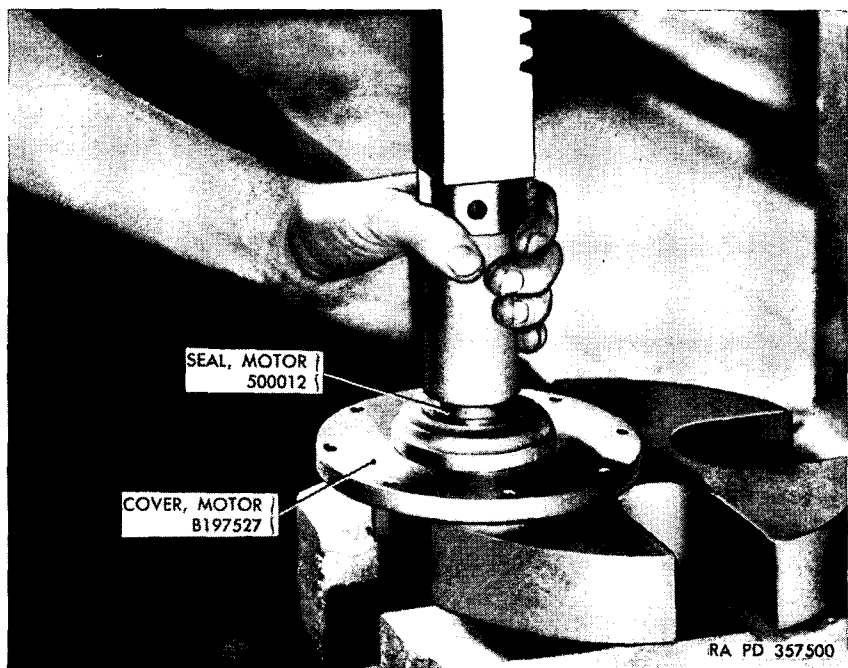

Figure 49. Pressing oil seal into oil seal retainer and cover.
g. ASSEMBLE GEAR PUMP HOUSING ASSEMBLY (figs. 2, 38, 49, and 124). Press gear pump shaft in housing the short way and flush with housing front face. Slip gear pump driven gear and bushing over shaft. Insert gear pump drive gear. Turn gears to see if they are free. Fasten gear pump cover to housing with six screws. Wire screws in place with lock wire. Insert front ball bearing into counter-bore of housing with bearing surface marked "THRUST HERE" facing oil seal retainer. Place gear pump housing assembly in an arbor press, front face down, with front ball bearing resting on a replacer, the two holes being concentric. Insert shaft into drive gear and ball bearing and be sure key fits in shaft and either drive gear keyway. Place a bar on ported end of drive shaft and force shaft assembly down until shoulder on shaft reaches front ball bearing. Place oil seal retainer on arbor press (fig. 49) with tongue downward. Set oil seal in place with closed end on top, and press oil seal flush with housing. Fasten gasket and oil seal retainer to gear pump housing with four screws. Wire screws in place with lock wire.
d. ASSEMBLE COVER ASSEMBLY (figs. 49 and 128). Place cover in an arbor press with inside face downward. Set oil seal in place with closed end on top and press seal flush with cover face.